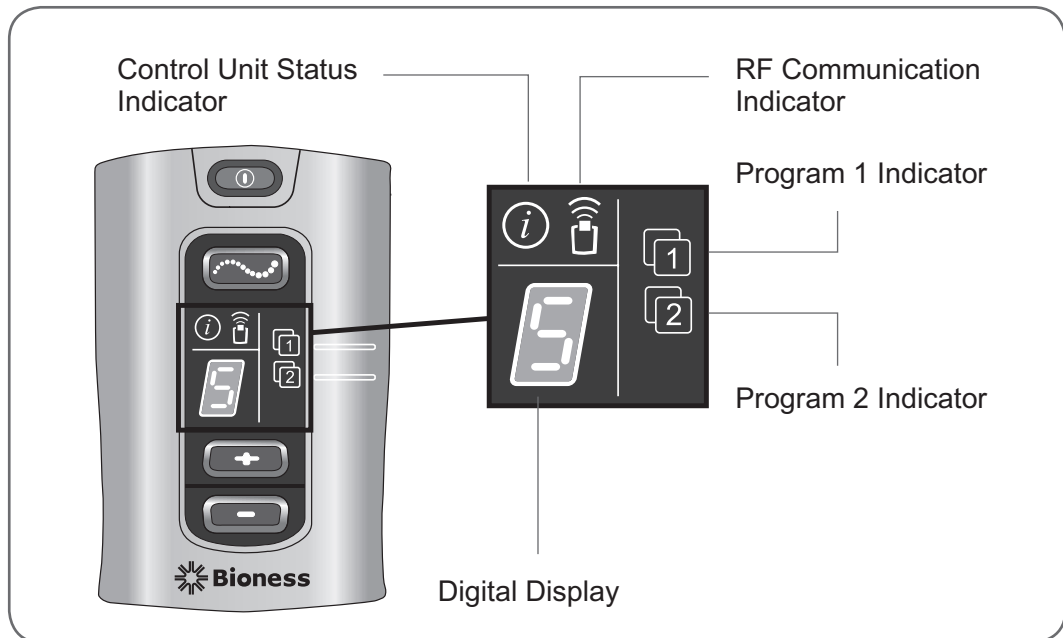

Figure 6-2: H200 Wireless Control Unit digital display and indicators.
- A digital display. See Figure 6-2.